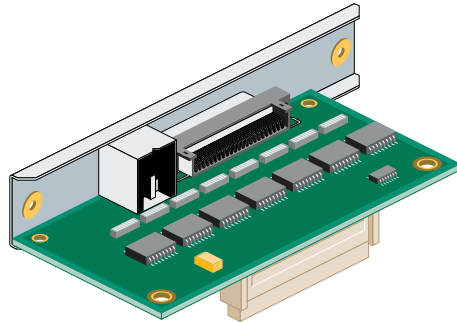

Figure 2-28 Identifying the Presenter 1280/Stereo View Board
The figures in this section show an adapter board similar to the one that supports the Presenter 1280 monitor and stereo view (Figure 2-28).
3. Before touching any of the components, attach the wrist strap to your wrist and to a metal part of the chassis (Figure 2-28).